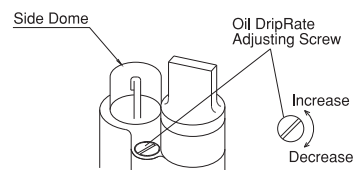

Fig.13
③ Adjusting the Oil Drip Rate(Fig.13)